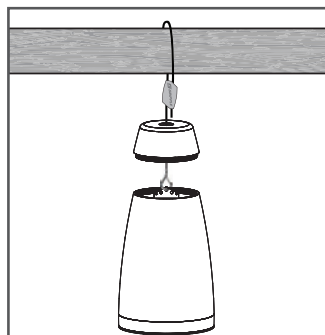

FIGURE 7: MAIN SUPPORT
4. With speaker supported, snap main support hook hanger onto the center hole in the top bracket of the speaker. Adjust to proper height by pulling down on either end of Gripple. (See figure 7).